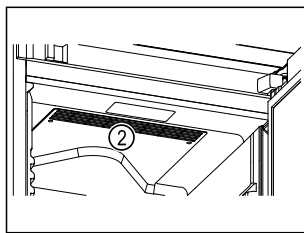

Fig. 65
- ❑ Ventilation slots *Fig. 65 (2)* for recirculation fan in the interior must be kept clear.